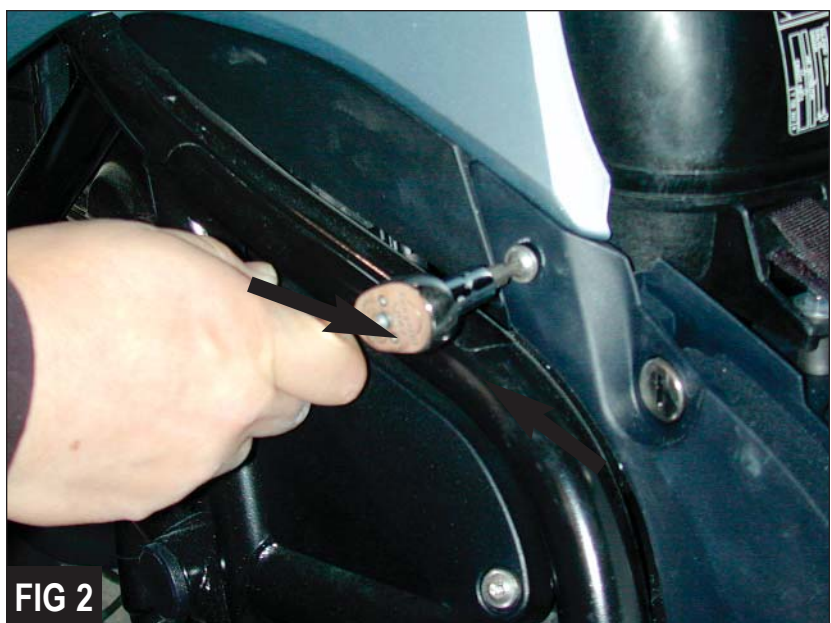

FIG 2
3. Remove the bolt on the left side of the gas tank panel (Figure 2).